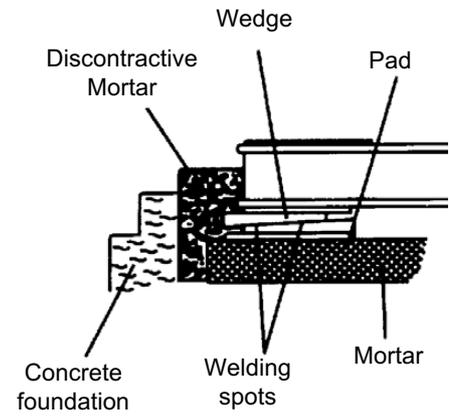

Fig. 3
- (d) The sole plate or common bed should be embedded in concrete foundation as illustrated in Fig. 3. Stiff pads should also be installed beneath the wedges, which are welded together at various spots about 400-500mm (15.75-19.70 inches) apart etc., to enable the foundation to carry evenly the weight of the whole motor.